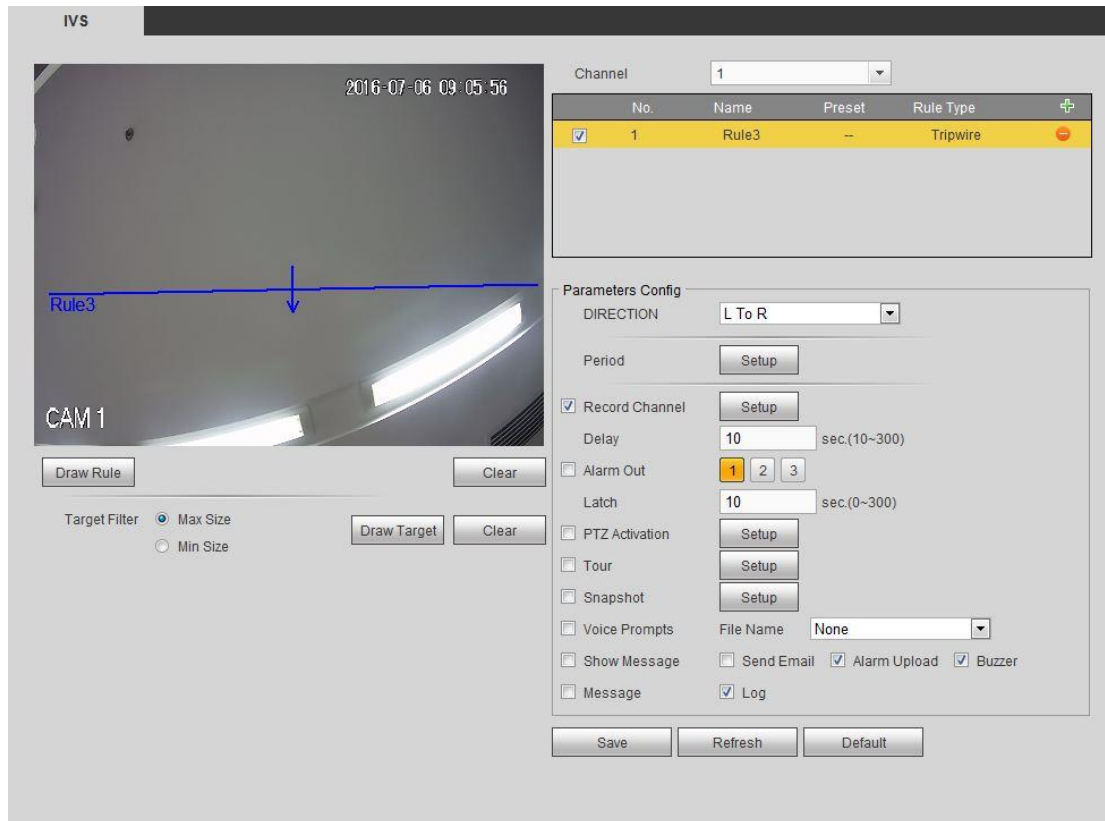

Figure 4-74
Step 3 Click Draw rule button and then left click mouse to draw a tripwire. Right click mouse to complete. See Figure 4-74.